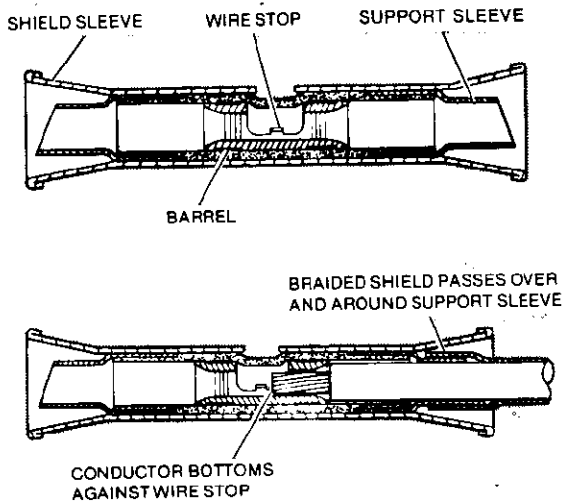

Figure 3
- (c) Insert stripped wire through support sleeve opening until end of conductor bottoms against wire stop as shown in Figure 3.
Braided shield must pass over and around support sleeve as shown in Figure 3.